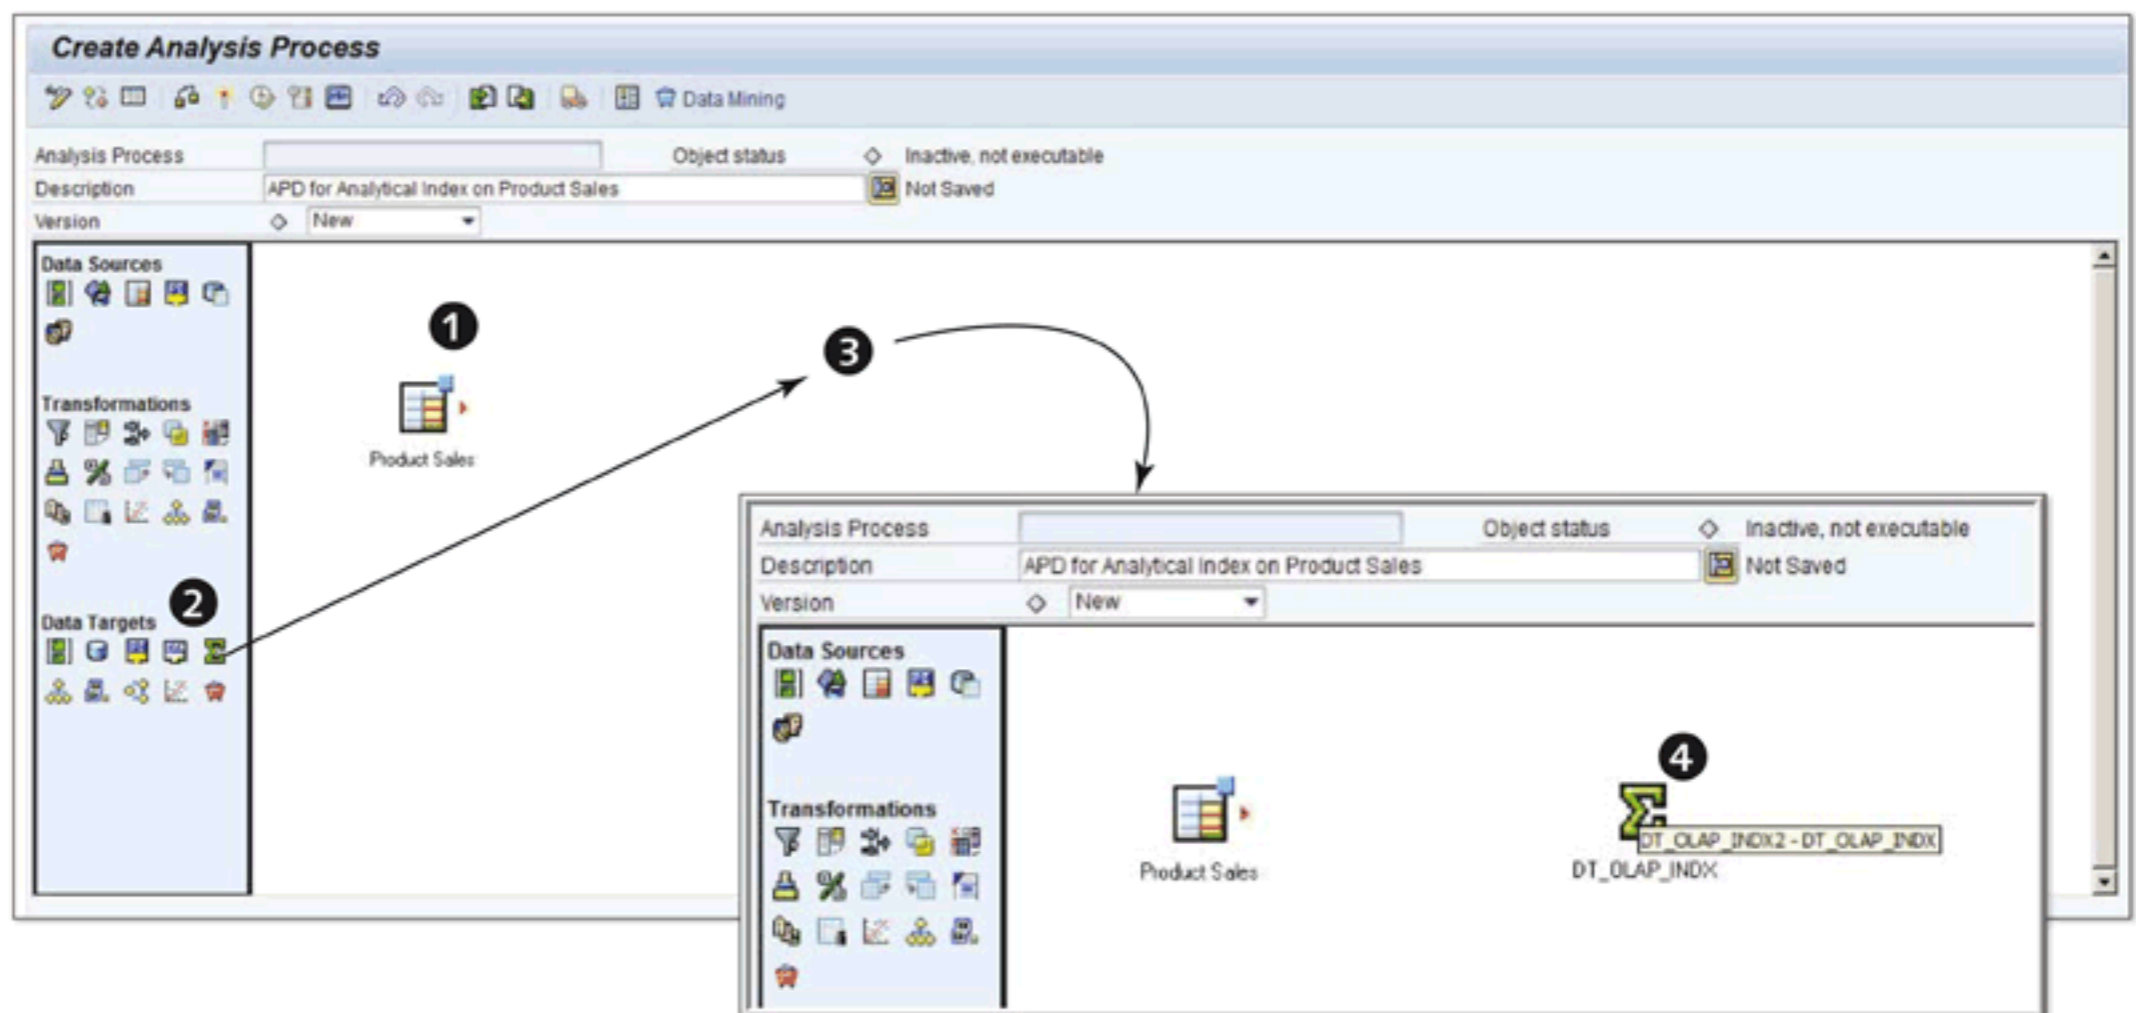

Figure 15.14 APD: Selecting Data Target
On the SOURCE tab (❷), select the query by clicking on the CHOOSE QUERY button (❸). Select query BWSD_C01_QUERY01 (❹). The system shows the InfoProvider name (❺); add the description "Product Sales" (❻). Click on OK (❼) to return to the main screen; the query is now assigned with the given details (❶ of Figure 15.14).